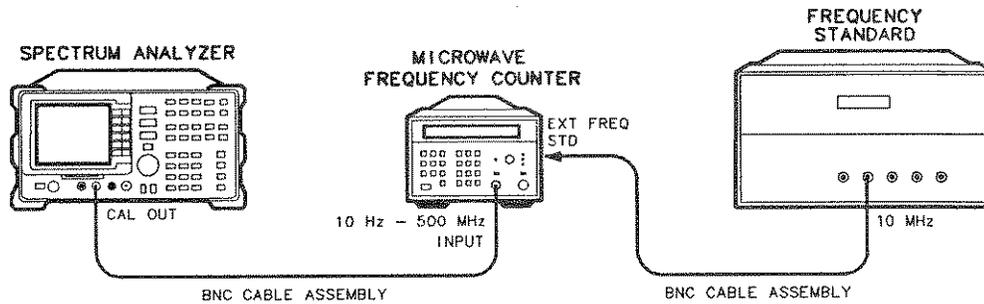

Figure 3-1. 10 MHz Reference Accuracy Test Setup (Standard Reference)
1. Connect the equipment as shown in Figure 3-1.